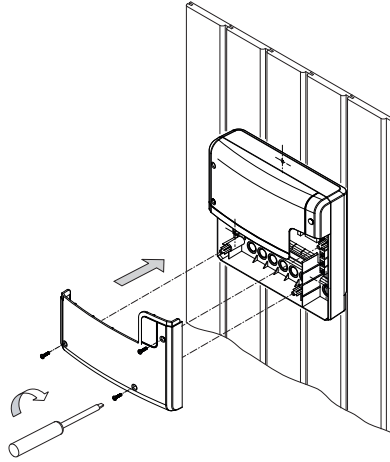

Fig. 3
3. Hang the housing on the upper central screw in the upper central mounting hole. Insert the supplied rubber cable glands into the openings of the bottom of the housing (from below or from behind, as desired) and then guide the connection cables through these openings. Screw the lower part of the housing firmly to the cabin wall in the two lower mounting holes (Fig. 3).